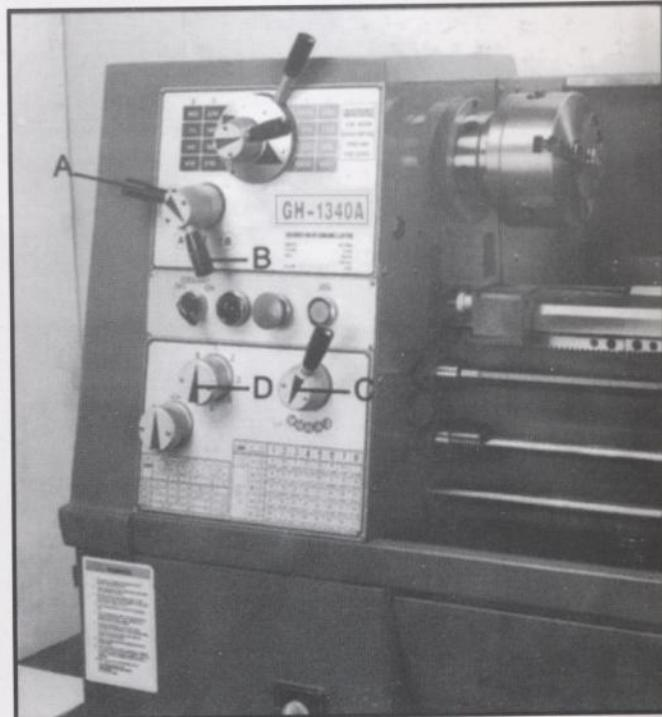

Fig.19
2. Set selector levers (A,B,C,&D,Fig.19) to desired rate. **Note:** for feeding, lever(C) will be set at "F" or "D", depending on desired feed rate.
1. Set forward/reverse lever (A,Fig.19) up or down depending on the desired direction.
2. Set selector levers (A,B,C, and D, Fig.19) to desired rate. Note: for threading, lever(C) will be set at "C" or "E", depending on desired thread.